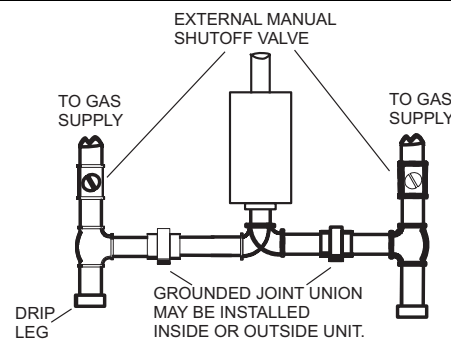

FIGURE 5: Downflow Gas Piping
***Should overheating occur, or the gas valve fail to shut off, turn the external manual gas valve in the gas supply line to the furnace to the "off" position and let the furnace cool off before shutting off the electrical power supply. Refer to Figures 5 & 6.***